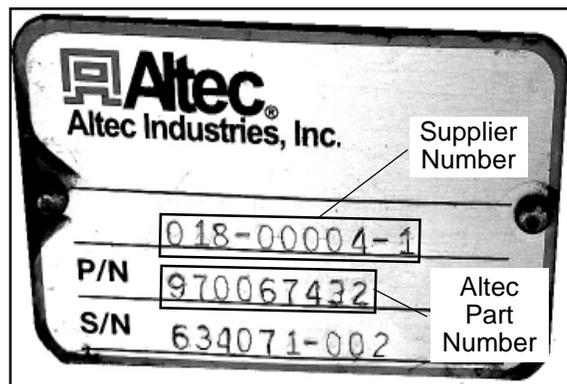

Figure 1 — Winch Tag
3. Look at the model identification label on the side of the winch to verify that the winch is on the affected list. If there is a supplier number on the tag (refer to Figure 1), the winch must be inspected and the drum replaced. If a supplier number is on the tag, continue on to Step 4. If there is no supplier number on the tag, the winch is not affected by this CSN and the unit can be returned to service.